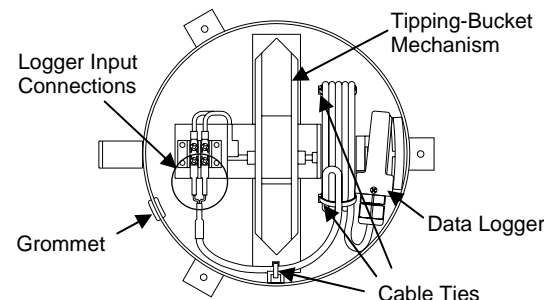

Figure 1: Rain Gauge Internal View (ring, screen, and funnel assembly removed)
To access the logger, first remove the ring, screen, and funnel assembly by simply pulling up the ring while holding down the rain gauge housing. The logger can then be seen installed in its holder inside the rain gauge housing (see Figure 1).
The logger's black and white input wires are connected to the tipping-bucket output by a terminal block as shown in Figure 1.
- **Ensure logger cable does not interfere with the operation of the tipping bucket mechanism!** When logger is not deployed outside of the rain gauge housing, cable should be neatly coiled with no sharp bends, secured with cable ties, and placed between tipping bucket holder and logger holder (see Figure 1). Logger should be placed securely in its holder.